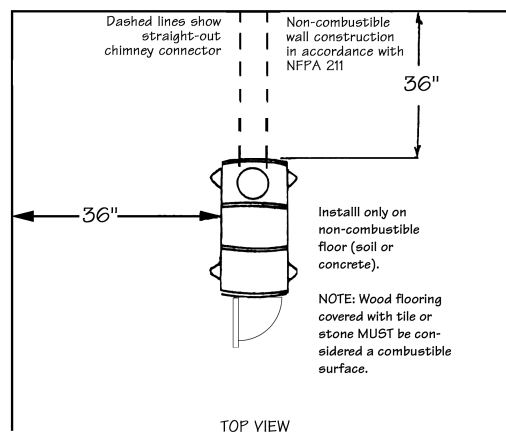

Fig. 3 – Floor Protector Clearances
4. **WARNING: RISK OF FIRE.** **DO NOT** store wood, kindling, flammable liquids or other combustible materials in the vicinity of the appliance. Do not place fuel, furniture or any other objects within the clearance area. Refer to reference figures 3–5 in this manual.
3. After observing the clearances to combustible materials (figure 3 – 5), locate your stove accordingly (figure 3) and carefully place the stove in your selected location. Install stove pipe, elbows, and thimble as required, utilizing either a recently cleaned and inspected, code-approved, 6" masonry chimney with flue liner or a 6" i.d., maximum 64 square inch, listed chimney.
4. Use 6" round black stove pipe. **DO NOT USE GALVANIZED PIPE.** Secure pipe sections with three (3) sheet metal screws in each stove pipe and/or elbow joint to firmly hold the pipe sections together. Screws should be spaced no more than a maximum of 3"/76mm apart.
5. Recheck clearances from the stove, connector stove pipe, and corner clearances using the illustrations (figure 3 – 5) and your local building codes or fire protection ordinances.